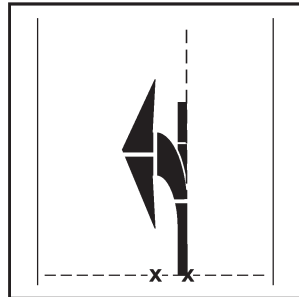

Figure 63
- Lay the base of the straight arrow along the chalk line using the RIGHT edge of the arrow (see Figure 63).